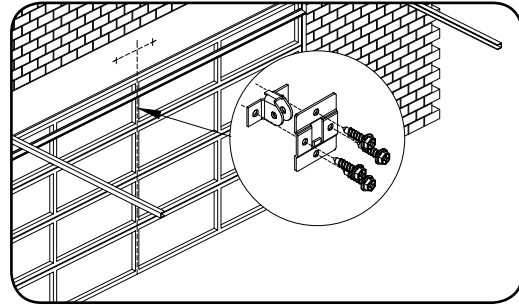

Fig. 19
The door bracket comes in two parts. The bottom plate with two mounting holes is used on its own for one piece doors. For sectional doors, the top plate is placed over the bottom plate and is fixed with four (4) screws (**Fig. 19**).
- Mount the door bracket, or bracket assembly, on the door's centre line one-third down the top panel (**Fig. 19**) using M6 or equivalent screws (not supplied),